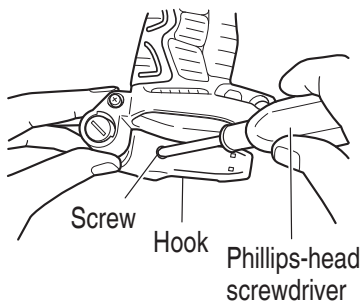

Fig. 14
- (4) Replacing the batteries
- (a) Loosen the hook screw with a phillips-head screwdriver (No. 1). (**Fig. 14**)